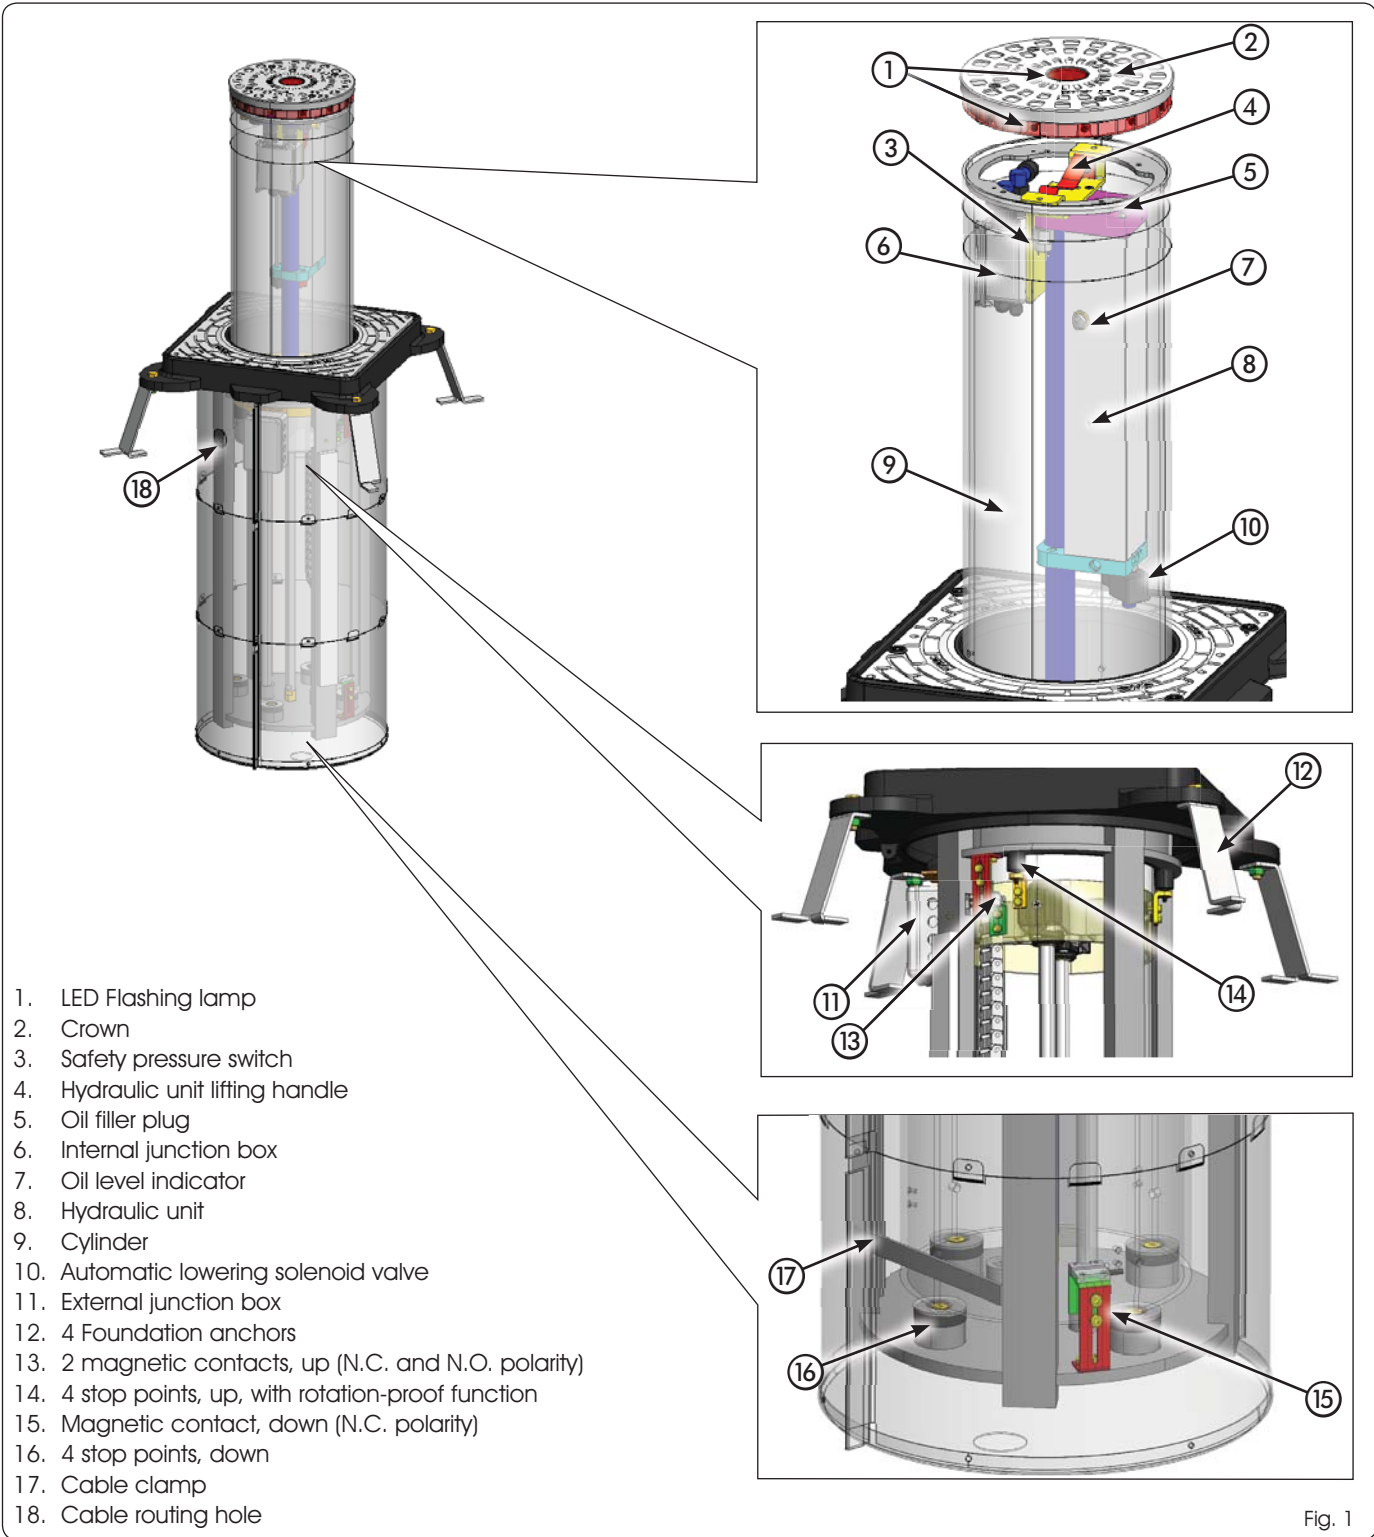

Fig. 1
(1) The indication of time refers to lowering operation with solenoid valve activated. If it is deactivated (see par. 10.2) the time value changes to 2.5 sec (H600) and 3 sec (H800)
(2) check the oil level on the indicator on the hydraulic unit (ref. ⑦ fig. 1) when the piston rod is all in.
(3) The thrust capacitor (16µF - 400v) is prewired in the junction box on the hydraulic unit.
(4) certified by the third body
The lowering of the bollard normally occurs by cutting the mains power supply thanks to the solenoid valve located on the hydraulic unit (see fig. 1 ref. ⑧).